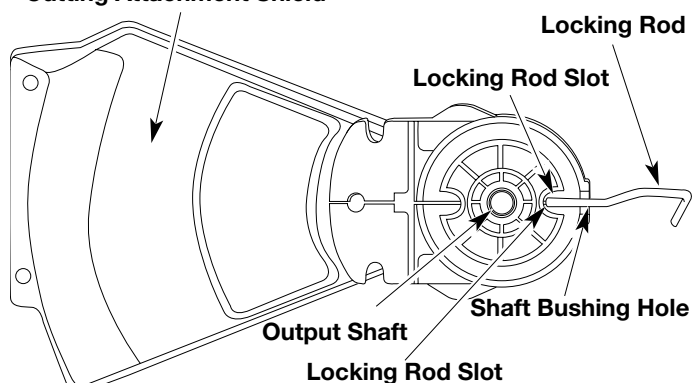

Fig. 11
2. Align the blade driver hole with the locking rod slot and insert the locking rod into the blade driver hole (Fig. 11).